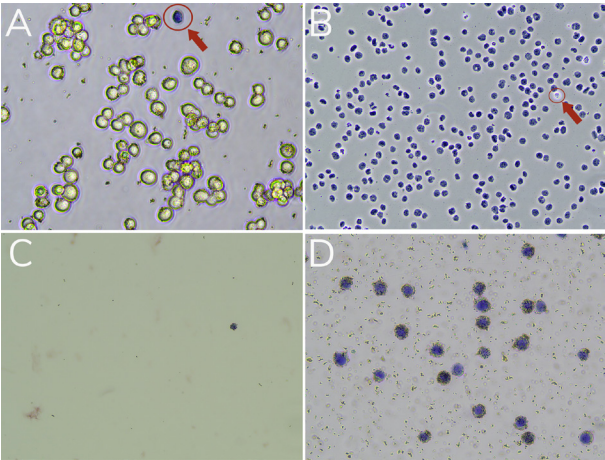

FIGURE 9
- e. Confirm sample integrity or troubleshoot as needed (See Figure 9).
8. To 10 μ L samples that were set aside (**unbound fraction**, **sample slurry**), perform Trypan Blue staining as described in Step 2. See Figure 9 for results.